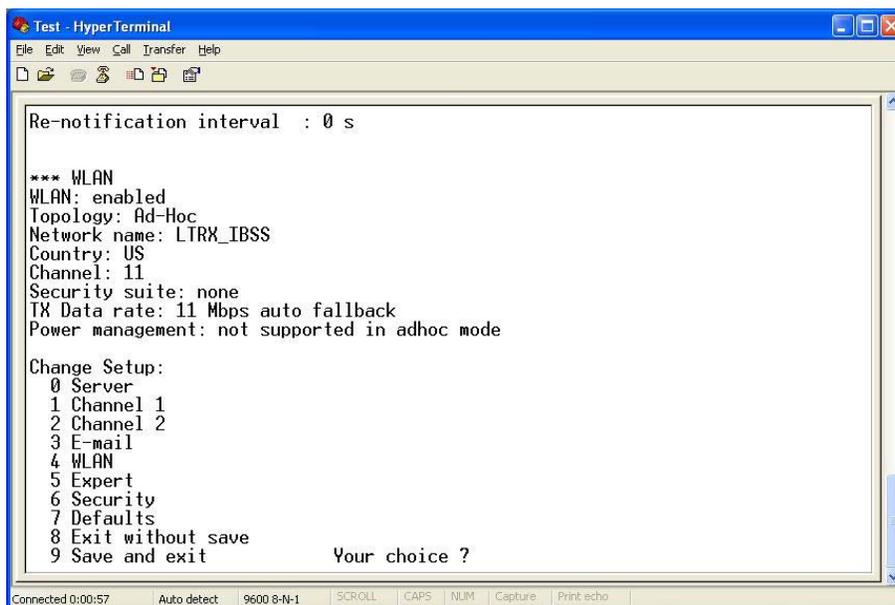

Figure 11. “Change Setup” Screen
7. Select a change setup value (0-9) from the menu by entering the number in the *Your Choice?* field and press **Enter**. In this example, WLAN options are being set up, so press **4** and **Enter** as shown in Figure 11.